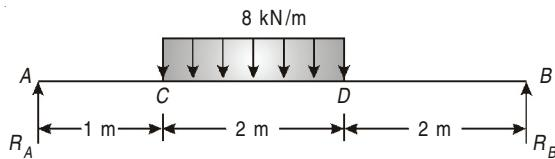

Fig. 4.44
- 4.29.** A simply supported beam has a flexural rigidity of 24 MN/m^2 and is loaded as shown in Fig. 4.44. Determine the deflections at mid-span.